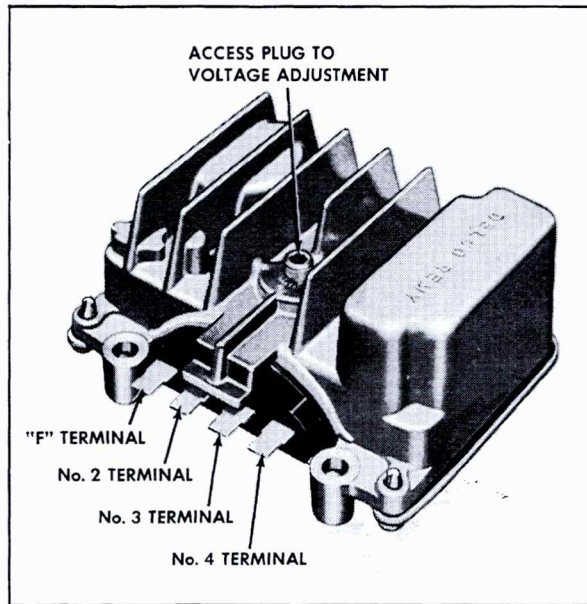

Fig. 6-34 Transistor Regulator
3. Disconnect normal lead to "F2" terminal and connect a jumper wire between "F2" terminal and ground, Fig. 6-34.